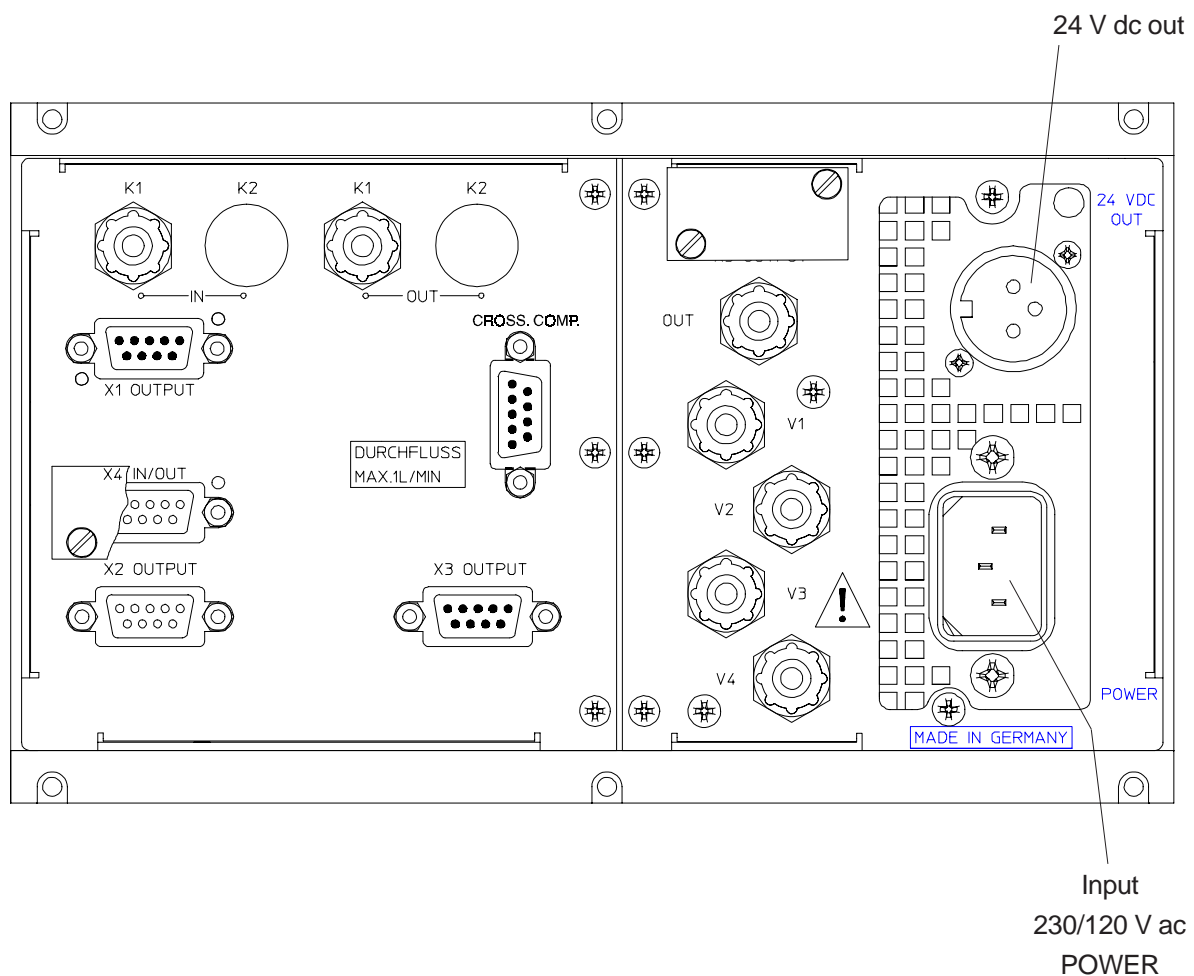

Fig. 6-1: Supply Voltage BINOS® 100 2M
- Connect internal power supply and external components (Fig. 6-1, 24 V dc out).